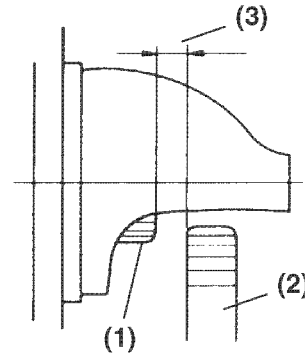

Figure 8-4
3. Check the distance between the flywheel ring gear (Figure 8-4, (2)) and starter motor pinion (Figure 8-4, (1)) in the rest position (mesh clearance) (Figure 8-4, (3)). The clearance must be 0.12 in. - 0.20 in. (3.0 mm - 5.0 mm).